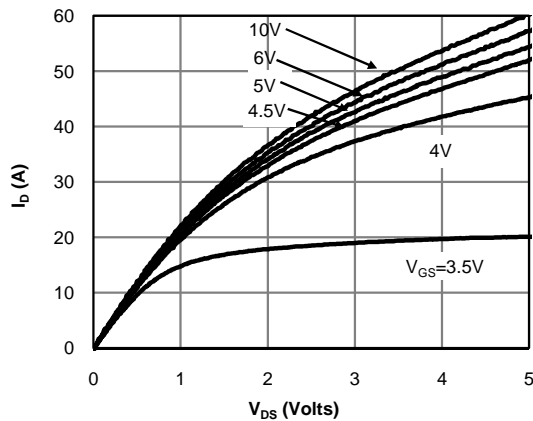

Fig 1: On-Region Characteristics (Note E)
E. The static characteristics in Figures 1 to 6 are obtained using <300μs pulses, duty cycle 0.5% max.